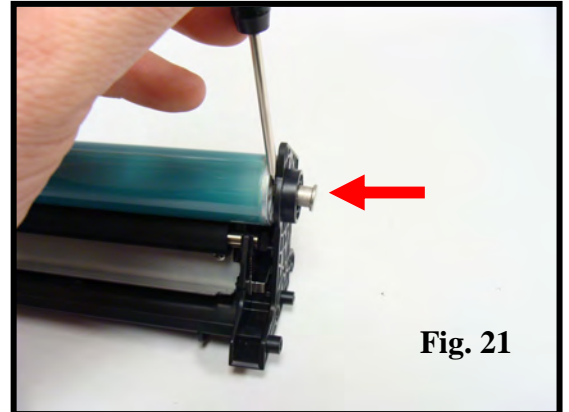

Fig. 21
21. Use a small flat screw driver to push the drum axle pin out of the cartridge (Fig. 21).